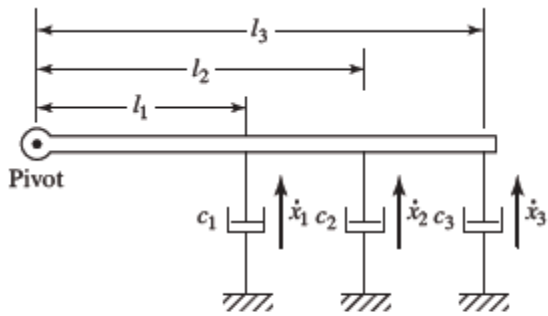

FIGURE 1.102 Dampers connected to a rigid bar.
- When three dampers are connected to a rigid bar (Fig. 1.102) and the equivalent damper is at site c_1 .